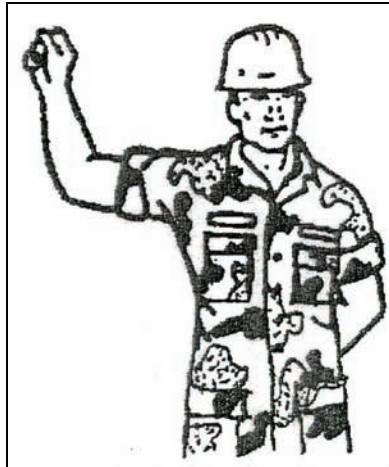

Figure 3-79. Stop or Disregard Last Command
1. Use the signal to indicate STOP or DISREGARD LAST COMMAND (see Figure 3-79).